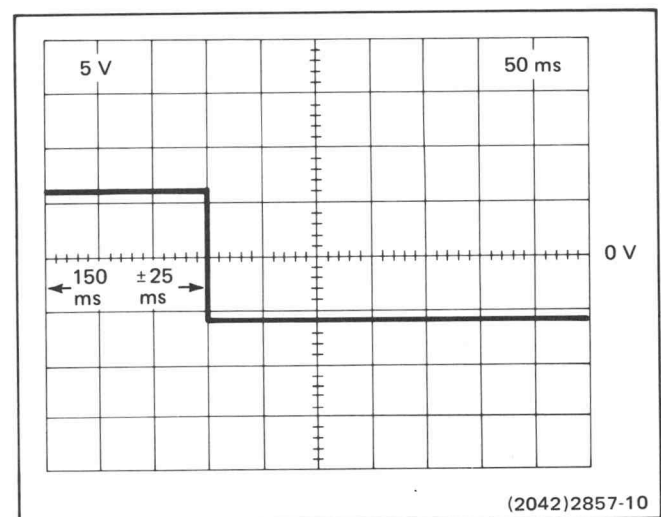

Figure 2-5. QRS Width.
b. **CHECK**—Pulse duration at TP371 (ECG board) is 150 ms, ± 25 ms (see Fig. 2-5).